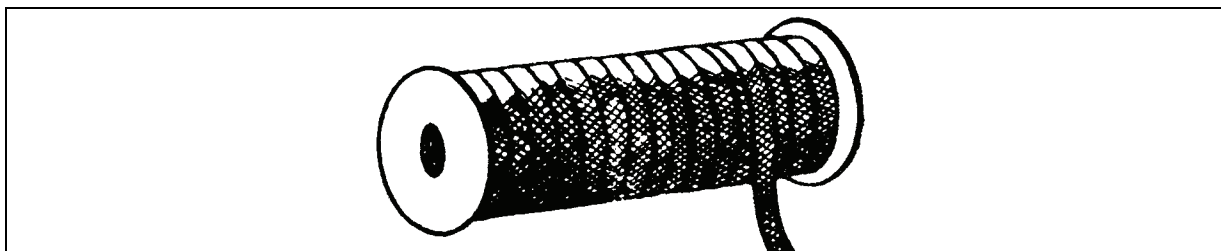

Figure 8-31. 1/4-Inch Cotton Webbing
- **Cotton Webbing.** Cotton webbing is used as an alternative to pressure-sensitive tape. The 1/4-inch wide Type I cotton webbing (Figure 8-31) is rated at 80 pounds breaking strength. Cotton webbing is also used to combine and hold the legs of the cargo sling on top of the load after the sling legs are attached. Once tension is applied to the sling, the webbing will break, freeing the sling legs for normal weight-carrying configuration. This breakaway technique reduces the risk of the sling legs fouling on the load during hookup and lift-off. The distance between breakaway ties is approximately 3 feet.